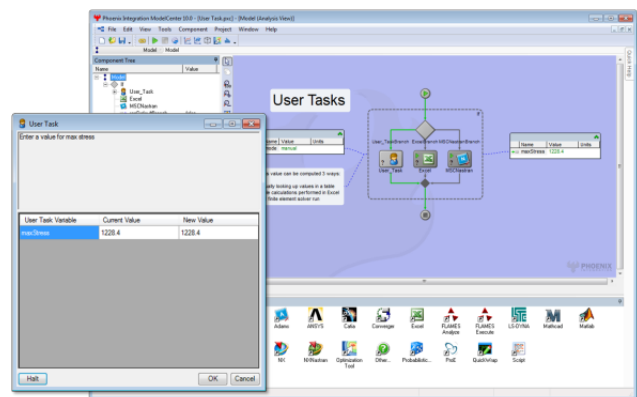

Figure 13. User Task Component prompts the user for values before continuing execution.
- **User Task:** Not all components automatically run. Some require user intervention and this type of component prompts the user for an action before proceeding. *Figure 13.*